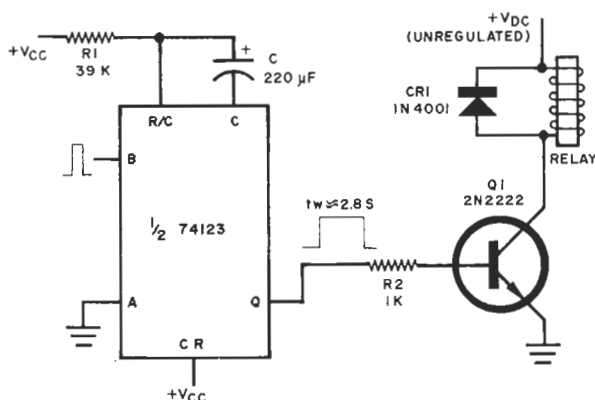

Fig. 8. A switching transistor provides relay driving power and isolates the mono from higher voltage required by the relay.
**Pulse Stretching.** A mono can be used to stretch a brief pulse so that it can be used to drive a relay, among other applications. The basic circuit is shown in Fig. 8. The 555, 558 and 559 are well suited to this use because of their drive capabilities.
An advantage of this circuit is that the load can be powered from a higher voltage than the logic. In Fig. 8, the relay is powered from the unregulated dc supply, saving the power supply regulator. Isolating resistor  $R_2$  is important to protect  $Q_1$ . If heavy load current is required, the emitter of  $Q_1$  should be returned to the power supply ground.